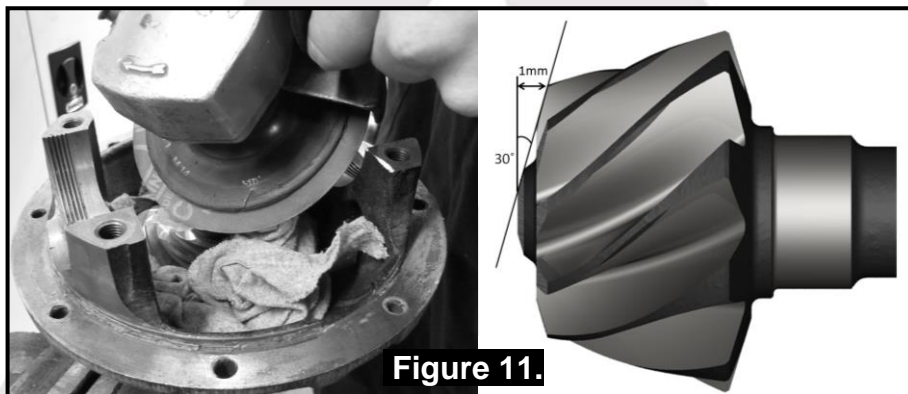

Figure 11.
- Use a 102mm [4.0"] or 127mm [5.0"] angle grinder and grind the ends of the pinion gear to a 30° angle at 1mm depth (Figure 11.).